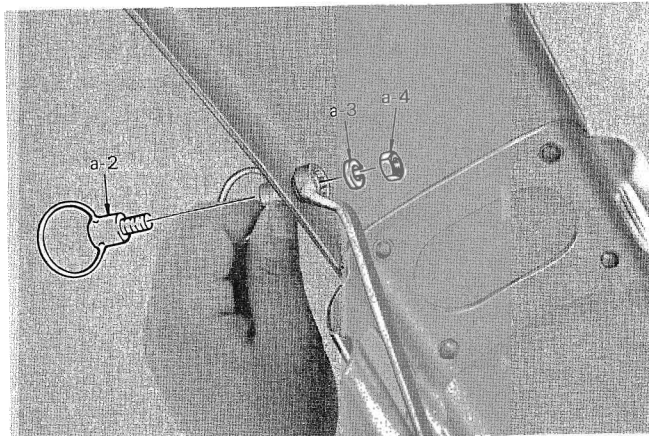

Fig. 6
3. Install the wire holder (a-2) using spring washer (a-3) and nut (a-4). (Figs. 6 and 7)